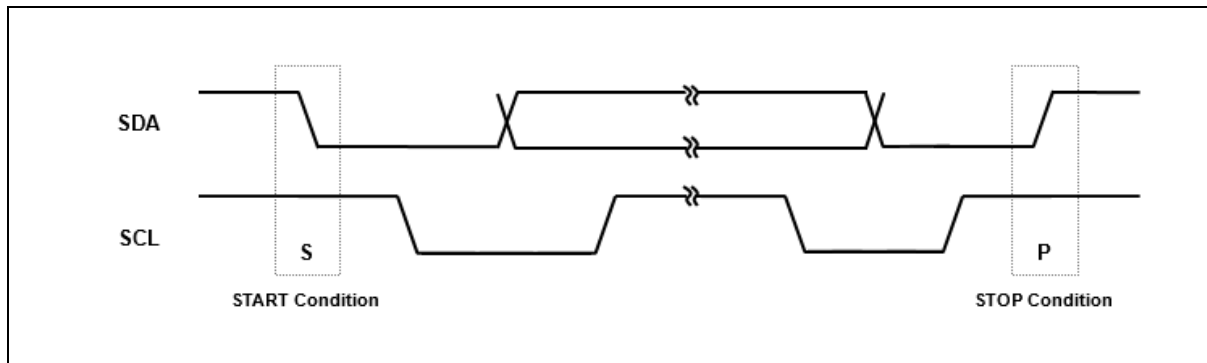

Figure 59. START and STOP Conditions
Within the procedure of the I2C-bus, unique situations arise which are defined as START(S) and STOP(P) conditions (Refer to Figure 59).